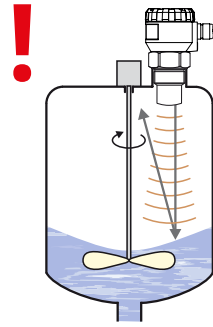

Fig. 10: Intensely stirred surface
- Rotating **mixer blades** can cause that the surface is stirred, which results in false reflections of the radio signal from the level and unreliable operation of the level meter (Fig. 10). **For a rippled or swirling level, you can use the directional horn to eliminate scattering of the radio signal.**